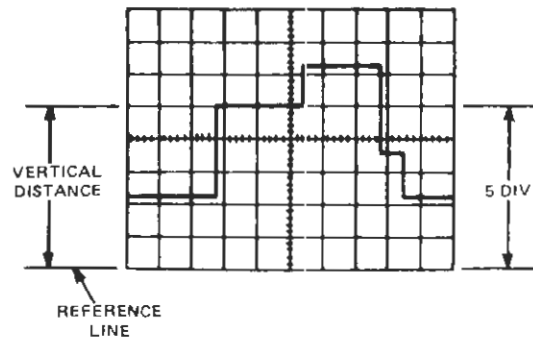

Figure 2-14. Instantaneous voltage measurement
2. Adjust the applicable TIME/DIV switch (20) or (21) for one complete cycle of waveform and set the VOLTS/DIV switch (11) for a trace amplitude of 4 to 6 divisions (see Figure 2-14).
3. Set the AC/GND/DC switch (13) to GND.
4. Use the appropriate Vertical Position control (14) or (15) to set the baseline on the central horizontal graticule line. However, if you know the signal voltage is wholly positive, use the bottommost graticule line. If you know the signal voltage to be negative, use the uppermost graticule line.
6. Use the Horizontal Position control (24) to position any point of interest on the central vertical graticule line. This line has additional calibration marks equal to 0.2 major division each. The voltage relative to ground at any point selected is equal to the number of divisions from that point to the ground-reference line multiplied by the VOLTS/DIV setting. In the example used for Figure 2-14, the voltage for a 0.5V/div scale is 2.5V (5.0 div \times .5V).